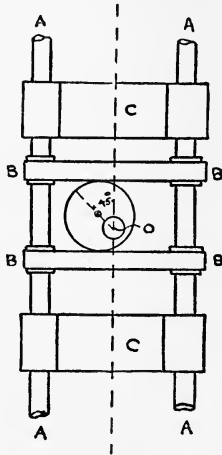

FIG. 3.
3. A, A are two parallel rods (*see* Fig. 3) connected together by two transverse bars (B, B). This system slides in fixed guides C, C , and is operated by the eccentric turning about the fixed centre O . The throw of the eccentric is 2 inches, the radius of the circle shewn in the figure is 4 inches, and the eccentric makes one revolution per second. Take the eccentric in the position shewn.